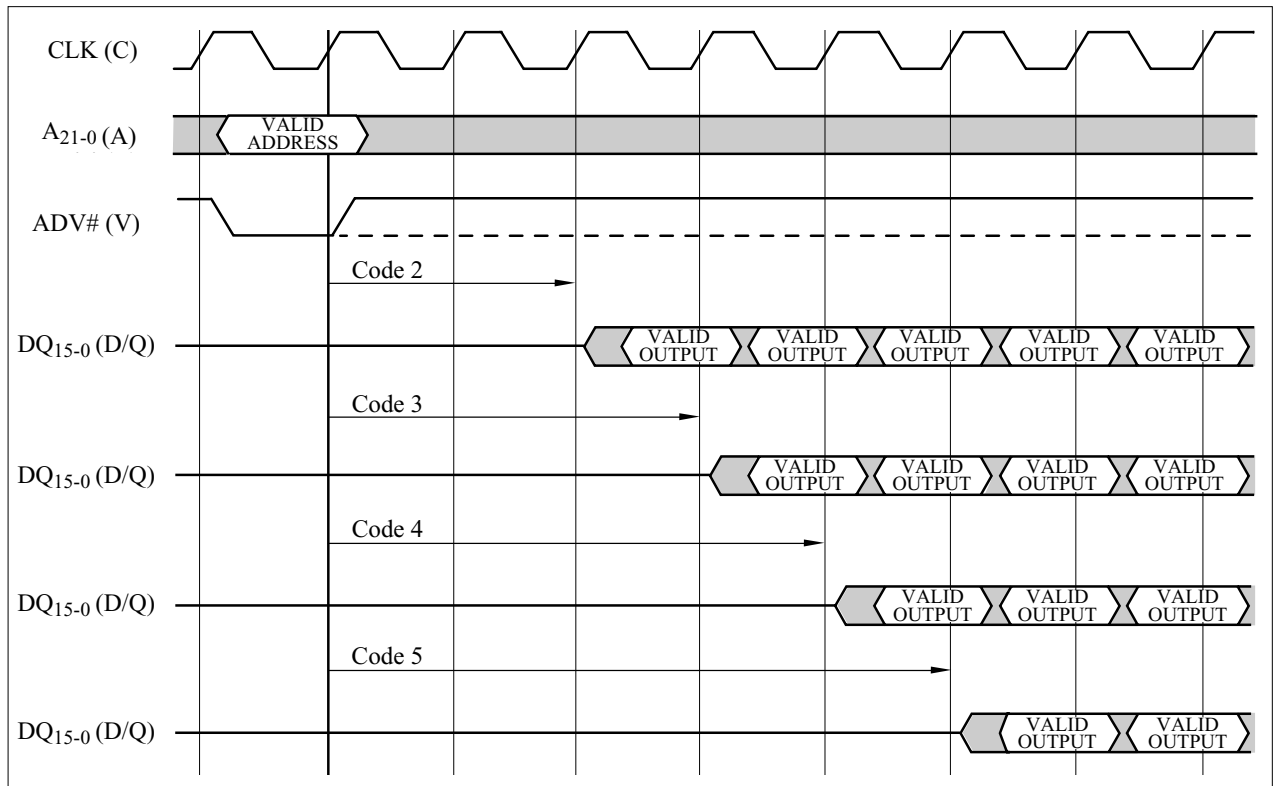
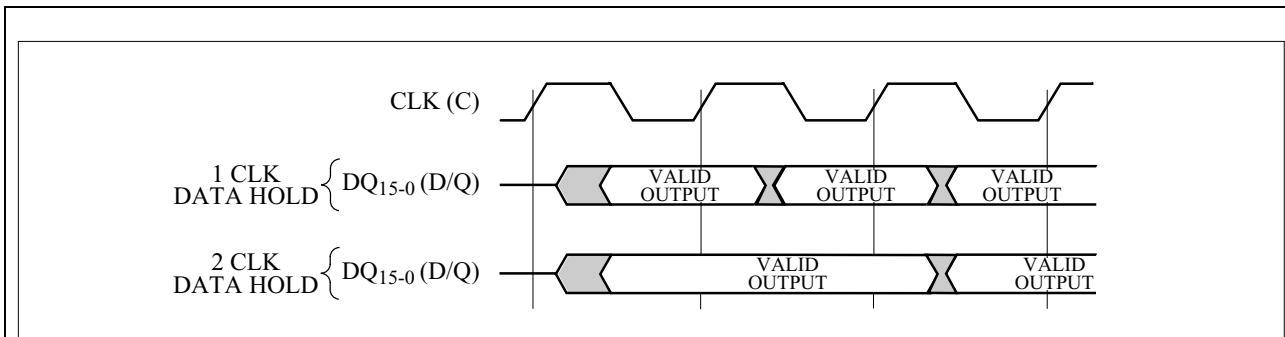

Figure 4. Frequency Configuration
Figure 5. Data Output Configuration
<p>RCR.15 = READ MODE (RM) 0 = Synchronous Burst Reads Enabled 1 = Asynchronous Reads Enabled (Default)</p> <p>RCR.14 = RESERVED FOR FUTURE ENHANCEMENTS (R)</p> <p>RCR.13-11 = FREQUENCY CONFIGURATION (FC2-0) 000 = Code 0 reserved for future use 001 = Code 1 reserved for future use 010 = Code 2 011 = Code 3 100 = Code 4 101 = Code 5 110 = Code 6 reserved for future use 111 = Code 7 reserved for future use (Default)</p> <p>RCR.10 = WAIT SIGNAL POLARITY (WT) 0 = WAIT signal is active low 1 = WAIT signal is active high (Default)</p> <p>RCR.9 = DATA OUTPUT CONFIGURATION (DOC) 0 = Hold Data for One Clock 1 = Hold Data for Two Clocks (Default)</p> <p>RCR.8 = WAIT CONFIGURATION (WC) 0 = WAIT Asserted During Delay 1 = WAIT Asserted One Data Cycle Before Delay (Default)</p> <p>RCR.7 = BURST SEQUENCE (BS) 0 = Intel Burst Order 1 = Linear Burst Order (Default)</p> <p>RCR.6 = CLOCK CONFIGURATION (CC) 0 = Burst Starts and Data Output on Falling Clock Edge 1 = Burst Starts and Data Output on Rising Clock Edge (Default)</p> <p>RCR.5-4 = RESERVED FOR FUTURE ENHANCEMENTS (R)</p> <p>RCR.3 = BURST WRAP (BW) 0 = Wrap Burst Reads within Burst Length set by RCR.2-0 1 = No Wrap Burst Reads within Burst Length set by RCR.2-0 (Default).</p> <p>RCR.2-0 = BURST LENGTH (BL2-0) 001 = 4 Word Burst 010 = 8 Word Burst 011 = Reserved for future use 111 = Continuous (Linear) Burst (Default)</p>	<p>NOTES:</p> <p>Read configuration register affects the read operations from main and parameter blocks. Read operations for status register, query code, identifier codes, OTP block and device configuration codes support single read cycles.</p> <p>RCR.14, RCR.5 and RCR.4 bits are reserved for future use and should be masked out when checking the read configuration register.</p> <p>Refer to Frequency Configuration in Table 13 and Figure 4 for information about the frequency configuration RCR.13-11.</p> <p>Undocumented combinations of bits RCR.13-11 are reserved for future implementations and should not be used.</p> <p>Data is not ready when WAIT is active.</p> <p>Refer to Figure 5 for information about Data Output configuration RCR.9.</p> <p>Refer to Table 14 for information about Burst Wrap configuration RCR.3.</p> <p>In the asynchronous page mode, the burst length always equals 8 words.</p> <p>All the bits in the read configuration register are set to "1" after power-up or device reset.</p> <p>When the bit RCR.15 is set to "1", other bits are invalid.</p>